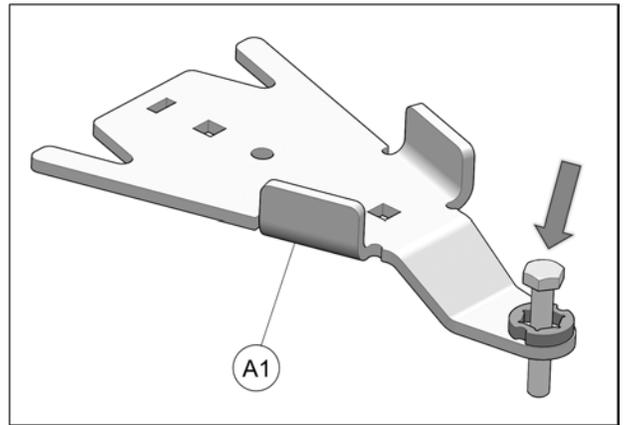

Fig. 17
4. Insert bolt in front anchor brackets (A1) as shown in Fig. 17